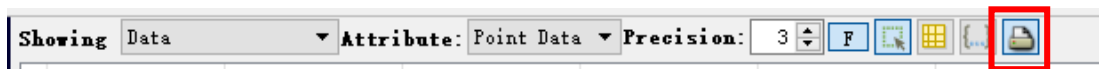

Figure A-21 RSView export selected points to csv file
10. Any selected point can be saved through the **output csv data** tool at the Spreadsheet toolbar (see Figure A-21).